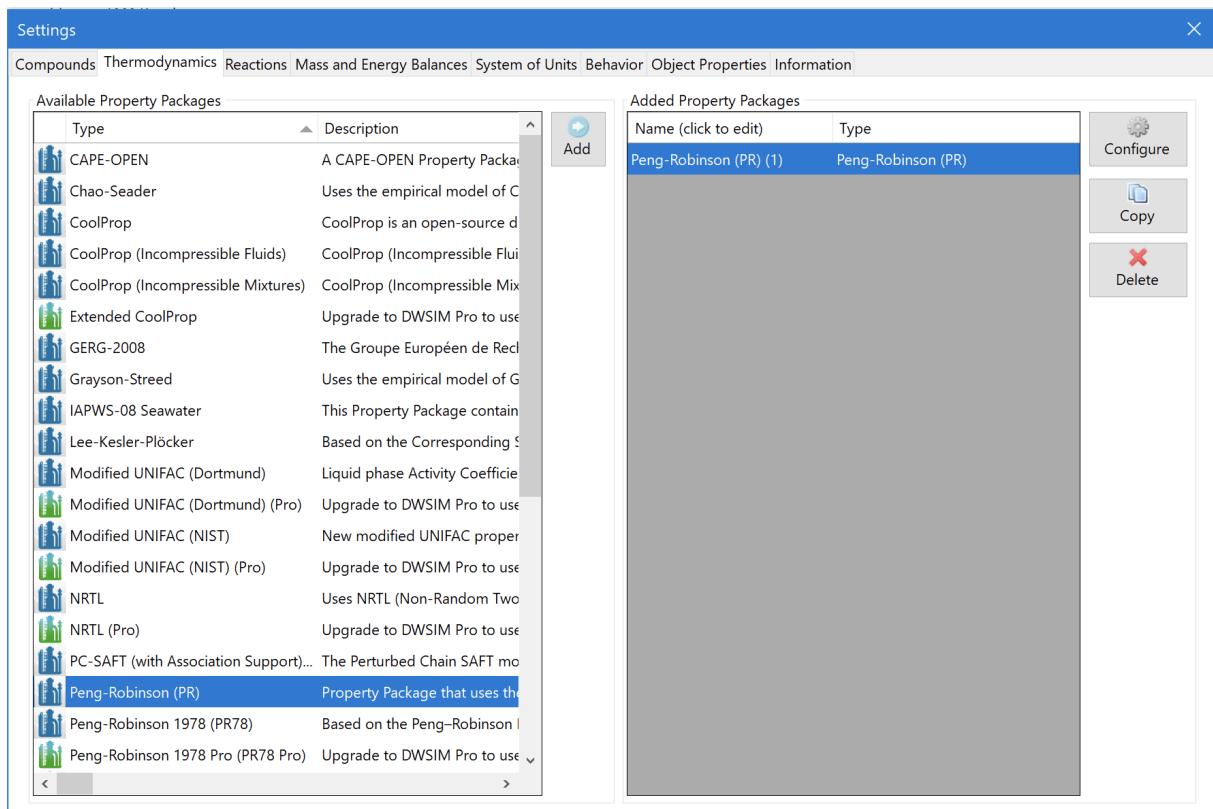

Figure 9: Property Package configuration interface.
2.2.2.1. Property Packages The Property Package consists in a set of methods and models for the calculation of physical and chemical properties of material streams in the simulation. It is composed of a thermodynamic model - an equation of state or a hybrid model - and methods for property calculation, like the surface tension of the liquid phase. The figure 9 shows the interface for configuration of the property package.